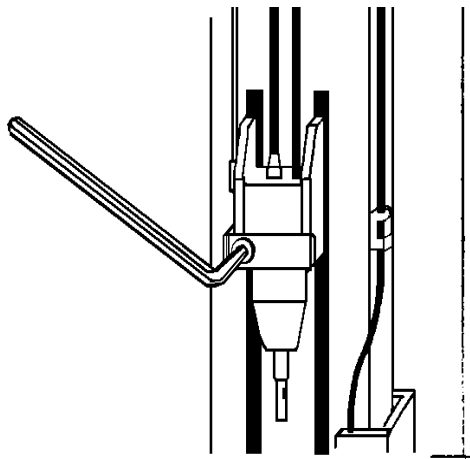

Figure 5-19. Removing and Replacing Sample Nozzle Assembly
6. Loosen the hex-head bolt and open the bracket. Remove the Sample Nozzle Assembly (refer to Figure 5-19).
Refer to Figure 5-19 for the following steps: